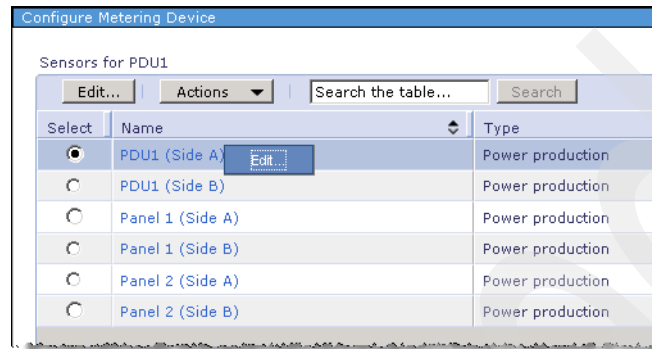

Figure 10-28 Sensors present in the selected facility equipment
3. If the selected facility equipment contains any type of sensors and power outlets, they display as shown in Figure 10-28. Right-click the sensor that you want to configure to associate it with any IT equipment that is present in the data center. Select **Edit**.